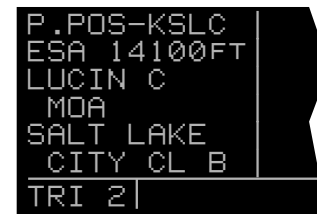

Figure 5-11
11. Select the TRI 2 page (figure 5-11). The minimum enroute safe altitude (ESA) and a listing of areas of special use airspace along the route are displayed. If all of the areas of special use airspace won't fit on one page, there will be multiple TRI 2 pages indicated by **TRI+2**.